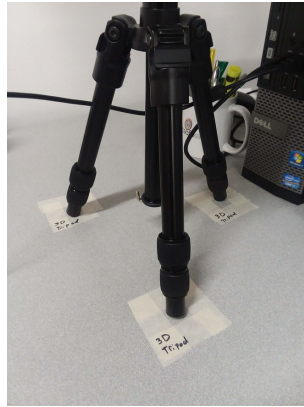

Figure 4: There will be three spike marks for the tripod legs
4. Obtain the miniature tripod that came with the turntable. The legs and neck of the tripod will not need to be extended. Simply position the legs so they match the labeled spike marks on the desk (Figure 4).